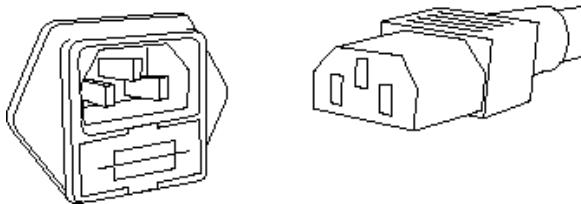

FIGURE 3
First check that the Power Switch (K) is in the "Out" position (OFF) and then connect the Detachable Power Cord to the Integrated 2 AC Power Cord Socket (Q) (see Figure 3). Plug your Integrated 2 into the AC power source.
Plug the Detachable Power Cord into this socket (see Figure 3). The Integrated 2 is factory set for the correct operating voltage for the area in which it is shipped (see shipping box for voltage setting). If a different operating voltage is required, please contact an authorized Sonic Frontiers or Anthem dealer, distributor or factory directly.